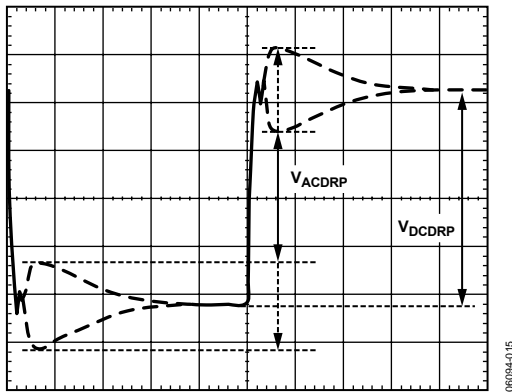

Figure 17. AC Load Line Waveform
14. Measure the output waveform (use dc offset on scope to see the waveform). Try to use a vertical scale of 100 mV/div or finer. This waveform should look similar to Figure 17.
15. Use the horizontal cursors to measure  $V_{ACDRIP}$  and  $V_{DCDRIP}$  as shown in Figure 17. Do not measure the undershoot or overshoot that happens immediately after this step.